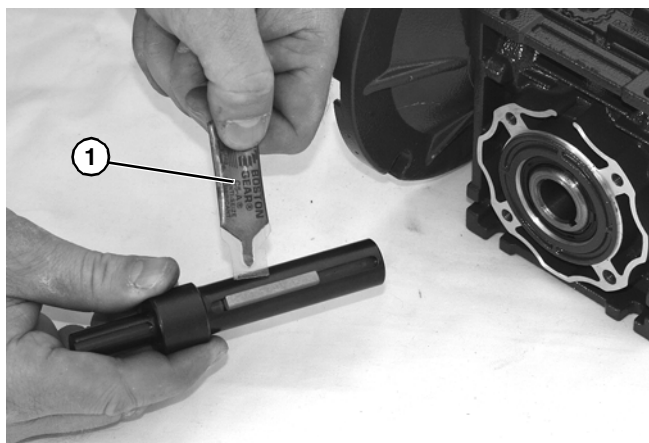

Figure 24
6. Apply anti-seize (Figure 24, item 1) to shaft.